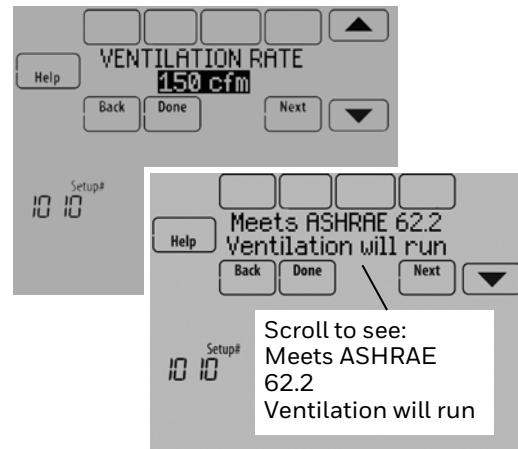

Fig. 231.
6. If ASHRAE was selected for ISU 1005, enter the Equipment Ventilation Rate (CFM). Be sure this setting corresponds with the actual ventilation speed. This setting determines how often the ventilation equipment will operate to meet the ASHRAE 62.2 Standard. The thermostat will indicate the following based on the Equipment Ventilation Rate, Square Footage and Number of Bedrooms. See Fig. 231.